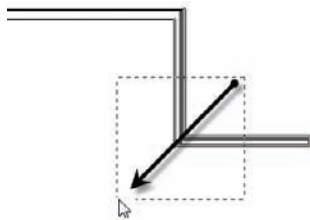

FIGURE 1.22 Using a crossing window to select two walls
3. You will see a window start to form. Run that selection window past the two walls. After you highlight the walls, as illustrated in Figure 1.22, let go of the mouse button, and you have selected the walls.
A crossing window describes an object selection method in which the window being placed only needs to cross through the objects in order to select them. A crossing window will always start from the right and end to the left. The crossing window, when being placed, is represented by a dashed-line composition (see Figure 1.22).